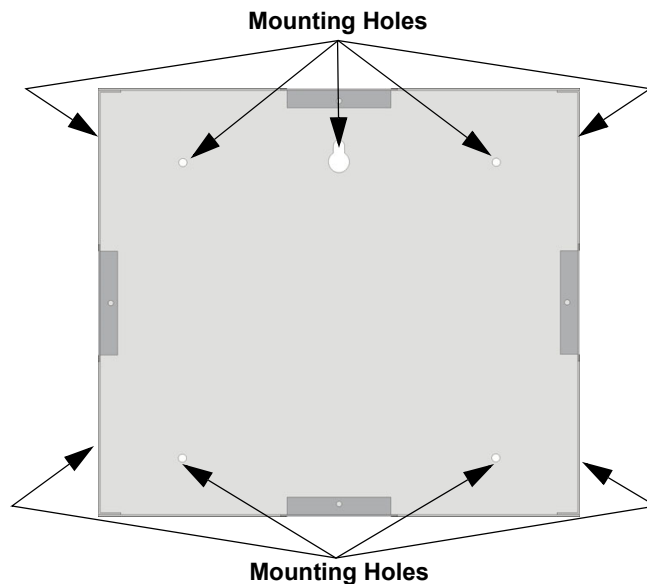

Figure 4.12 Backbox Mounting Holes
1. The backbox dimensions are 9 1/4" W x 8 3/8" H. The backbox can be mounted prior to the complete installation of the RA-2000 using any of the mounting holes shown in Figure 4.12.